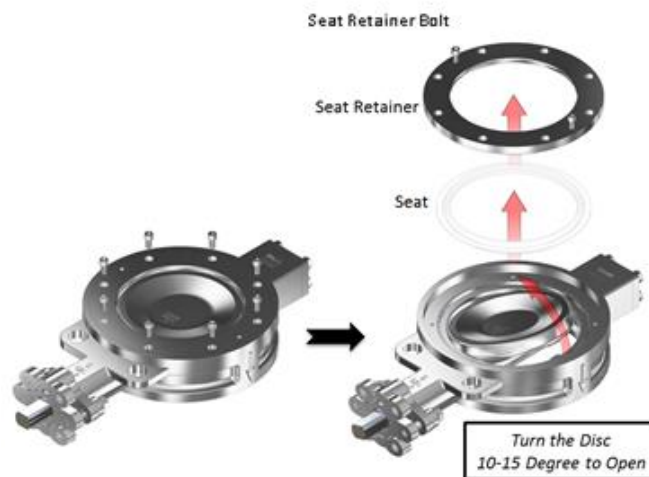

FIGURE 5. SOFT/METAL SEATED DISASSEMBLY DIAGRAM
1. Refer to Figure 5 for soft seat disassembly.